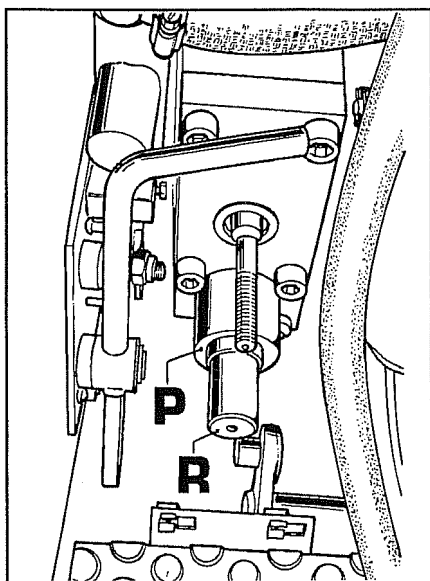

Fig. 17
c. Fix bushing **P** with inside diameter 29 mm to the plate and then insert the centring punch **R** (Fig.17).